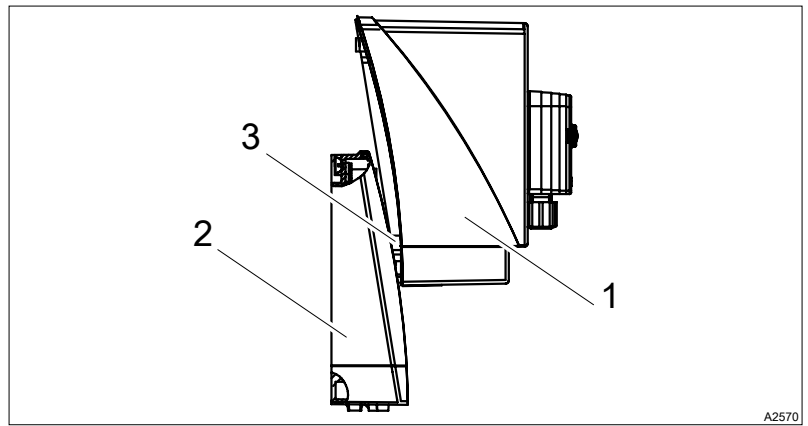

Fig. 8: Parked position
3. ➤ Slide the upper part of the housing with the side flaps up into the recesses in the lower part of the housing (parked position), Fig. 8.